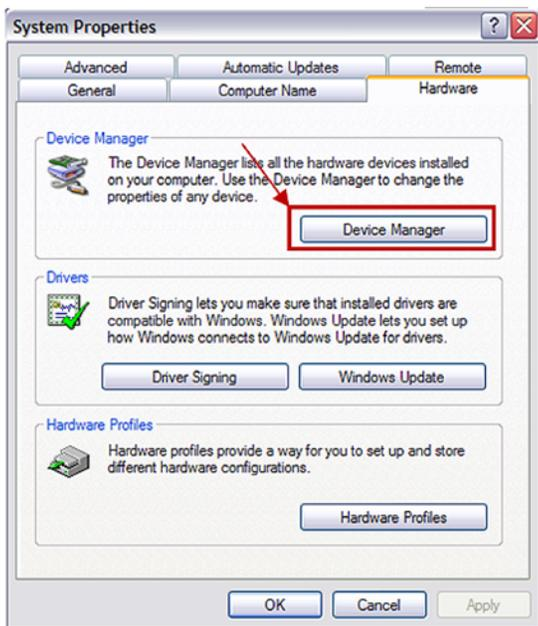

Figure 5. **System Properties**
2. Click the **Hardware** tab of the **System Properties** window, as shown in Figure 5.